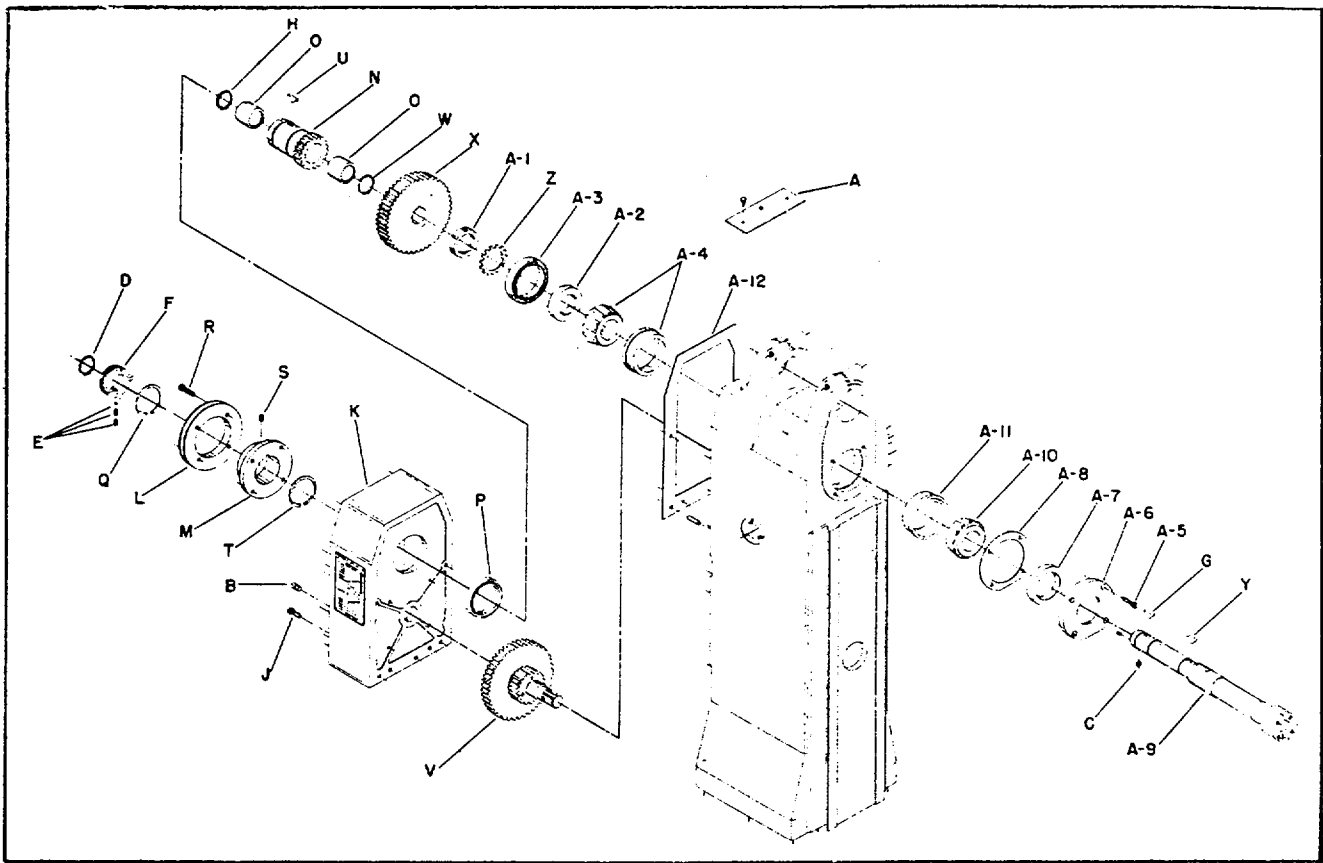

Fig. 22.
5. Remove the oil breather plate (A) Fig. 22 located on top of the gearbox and the oil drain plug (B) Fig. 22, and drain the oil from the gear box.
6. Remove the grease fitting (C) Fig. 22, located on the end of the spindle, and remove the snap ring (D).
7. Remove set screw, spring, and ball, (E) Fig. 22 Then remove the clutch half (F) and key (G).
8. Remove snap ring (H) Fig. 22, and remove four cover plate screws (J).
9. Remove gear box cover plate (K) Fig. 22. Spindle pulley (L), snap ring (Q), plate (M), clutch half (N), two needle bearings (O), and oil seal (P) will come off with the cover plate. If any of these parts are to be replaced, remove snap ring (Q), four screws (R), pulley (L), set screw (S), plate (M); and snap ring (T). Then remove key (U), and slide clutch half (N) out of the gear box cover plate (K). When reassembling these parts, we recommend that the oil seal (P) be replaced and the clutch half (N) placed on the spindle before gear box cover plate (K). Then wrap the clutch half (N) with cellophane tape so that when the cover plate (K) is placed on the frame the oil seal (P) is not damaged.
10. Remove jackshaft gear cluster (V) Fig. 22.
11. Remove snap ring (W), bull gear (X), and key (Y) Fig. 22.
12. Unlock bearing lockwasher (Z) and back off bearing locknut (A-i) Fig. 22. Using a spanner wrench remove bearing adjusting nut (A-2). When replacing bearing adjusting nut (A-2) tighten the nut with a spanner wrench until it takes a torque of 15 inch pound to turn spindle.
13. Remove oil seal (A-3) Fig. 22. The rear tapered bearing assembly (A-4) can then be removed from the spindle.
14. Remove four screws (A-5), retainer (A-6), oil seal (A-7), and gasket (A-8) Fig. 22.
15. Then remove the spindle (A-9) Fig. 22. It may be necessary to use a soft hammer or a block of wood to drive the spindle out through the front of the machine. The tapered bearing cone (A-10) will probably come off with the spindle and the bearing cup (A-11) can then be removed from the machine.